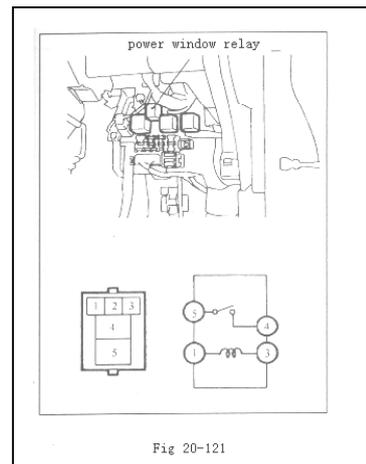

Fig 20-121
4. Power window relay inspection as Fig 20-121、Table 20-72